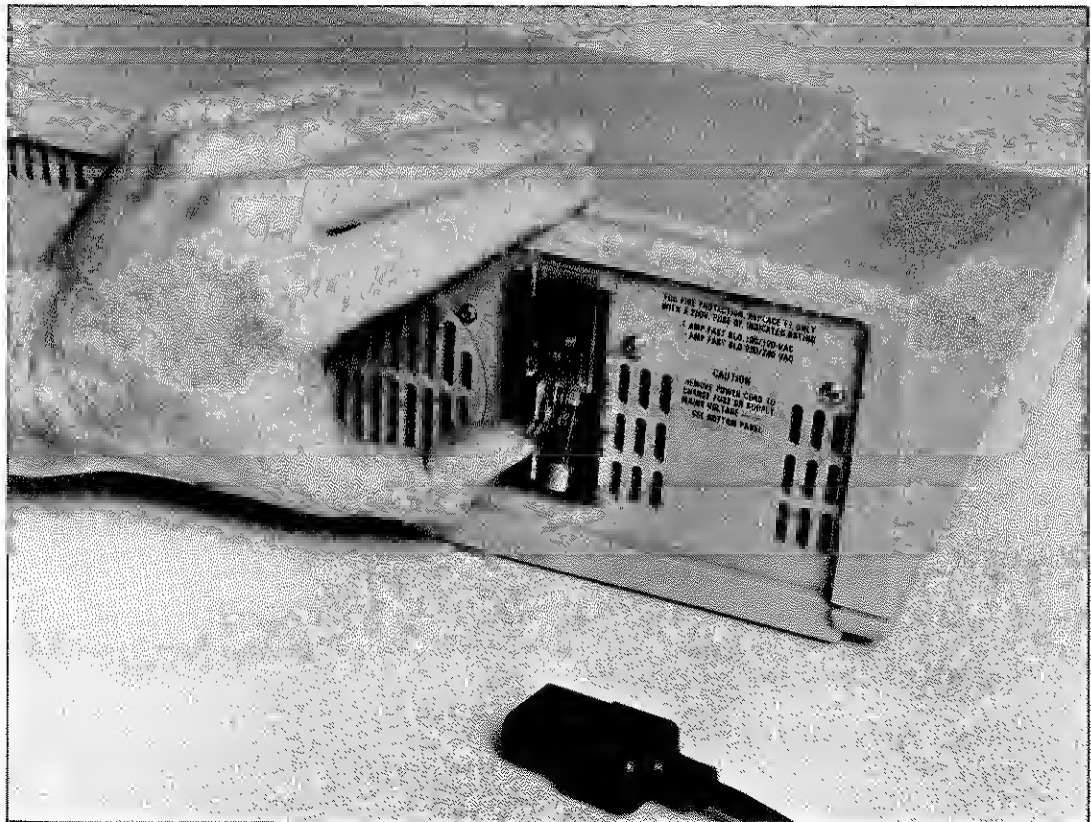

Figure 2-1. Line Fuse Replacement
The line fuse (F1) is located in a recessed compartment in the rear panel. Line fuse replacement is illustrated in Figure 2-1. To replace the fuse, proceed as follows:
3. Pull up the plastic lever (as Shown in Figure 2-1) to slide the fuse out of the compartment.